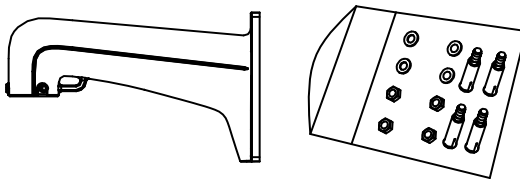

Figure 2-9 Wall Mounting Bracket
- The bracket in Figure 2-9 is the recommended bracket for this series of speed dome, and a pendant adapter is required if any other bracket is selected. The dimension of pendant adapter is $G1\frac{1}{2}$.
- 1) Get the bracket and screws from the packing box as shown in Figure 2-9.